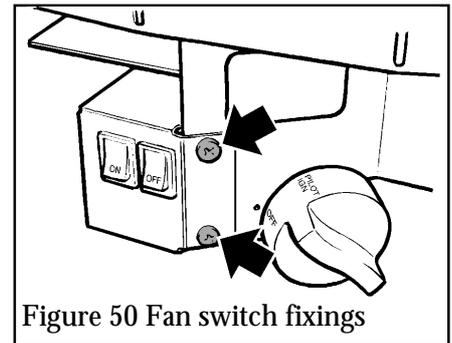

Figure 50 Fan switch fixings
- 15.5.6** To gain access to the pilot pipe connection, detach the fan switch bracket from the burner control bracket by removing two screws (see figure 50).
- 15.8.1** Detach the fan switch bracket from the burner control bracket by removing two screws (see figure 50). Carefully pull clear of the burner unit.